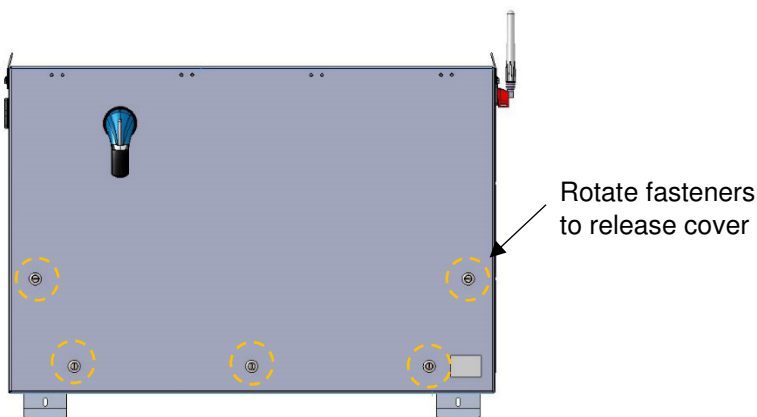
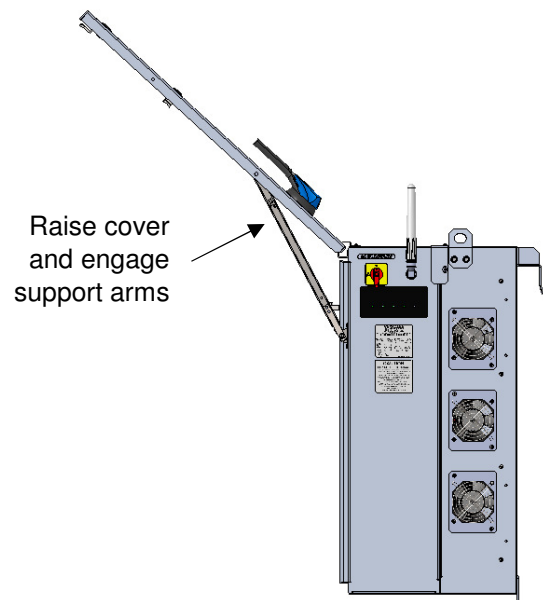

Fig. 3-6. Inverter Cover Latches (Qty 5)
Fig. 3-7. Inverter Cover Support Arms
Make sure the disconnect handle is in the off (0) position. Use a flat head screw driver to unfasten the five quarter-turn latches on the front cover, as shown in Figure 3-6. Lift the bottom of the cover and swing upward. Stop if you feel resistance and check the switch handle position. Make sure both cover supports are engaged, as in Figure 3-7.